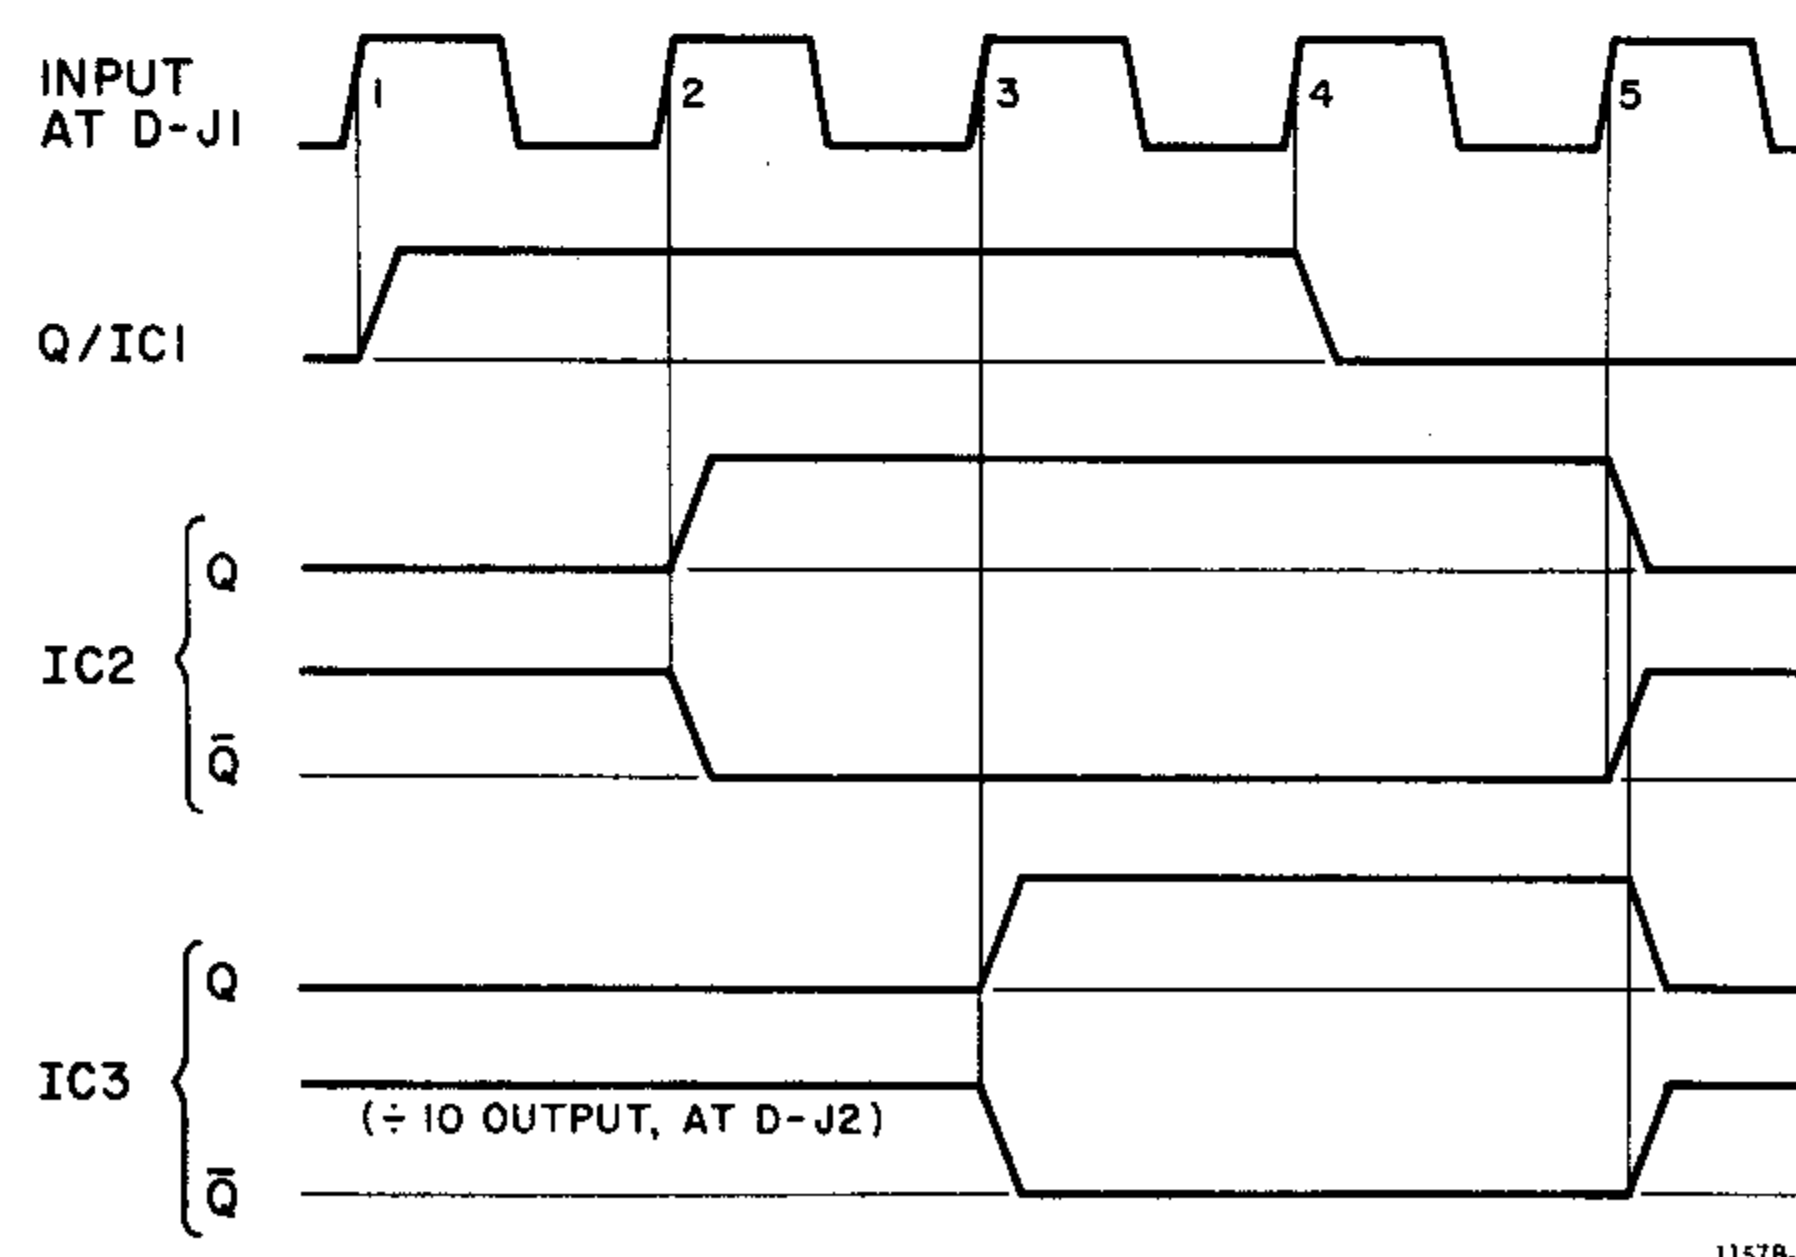

Figure 4-3. By-5 divider timing diagram.
4.3.5 By-5 Divider – D (Figures 4-3, 6-11).
The time sequence is shown in Figure 4-3. Start with a time when all 3 flip-flops are in the 0 state. The signal at D-J1 (having come through the binary divider) is used as the clock drive. (Abbrev. used: IC1, IC2 . . . for D-IC1, D-IC2 . . .)